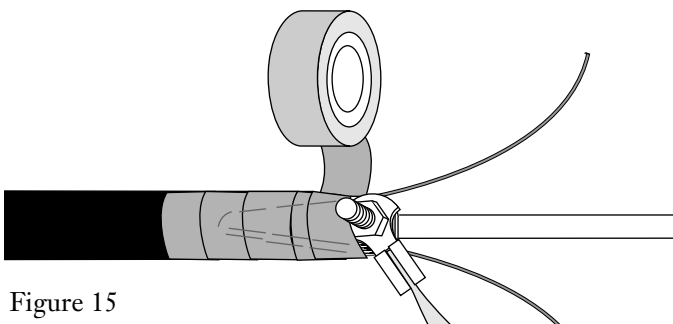

Figure 15
5.4 Cover the grounding clamp and split portion of the sheath with vinyl tape as shown in Figure 15.